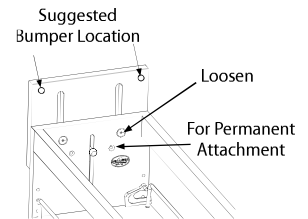

Fig 3
- 5) Loosen the machine screws at the top back wall of the unit to allow the rear stop to float freely. (See Fig 3). Raise the rear stop until it catches the rear of the face frame (if frameless application, a block may need to be added to allow the stop to work properly). Once the stop is at the right height, the machine screws can be tightened. (Note: Once in place you can permanently secure the location using the pre-drilled pilot holes and the (2) #6 x 1" flat head screws provided.)
- 6) Rubber bumpers are provided to place at the top of the rear stop between the face frame and the stop to deaden the noise. (See Fig 3)